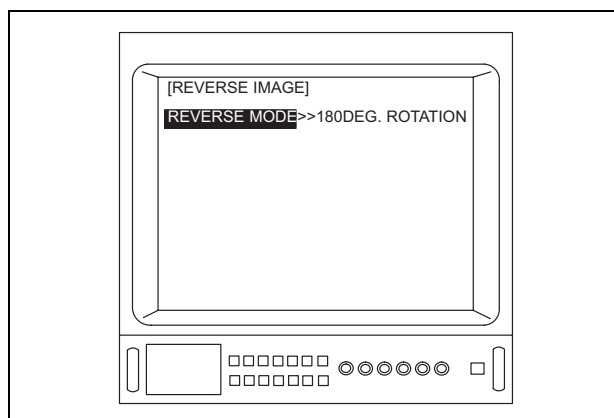

Figure 5.112
6. Depress the menu switch “ \leftarrow ” or the “Enter” key on the keyboard to adjust “REVERSE MODE” (see Figure 5.112).
Depending upon the OTV-S7V's settings, the menu shown in Figure 5.112 may appear different from that displayed on the video monitor.